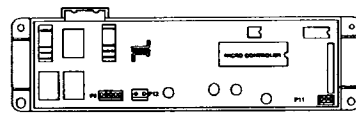

Fig. 18
1. Electronic Control Board (Fig. 18)